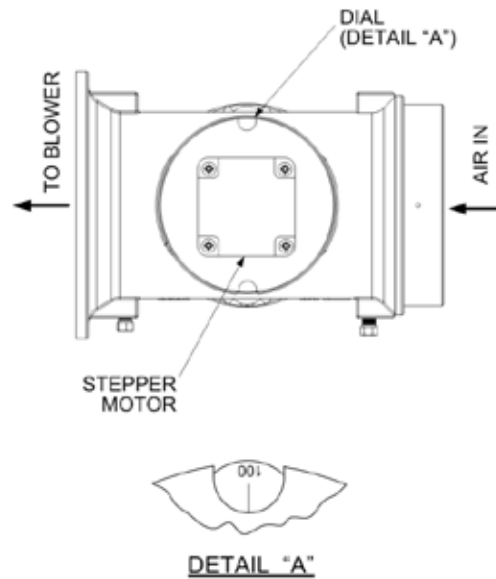

Figure 3-4.
- (b) The Air/Fuel Valve rotates to the full-open purge position and closes purge position switch. The dial on the Air/Fuel Valve (Figure 3-4) will read 100 to indicate that it is full-open (100%).